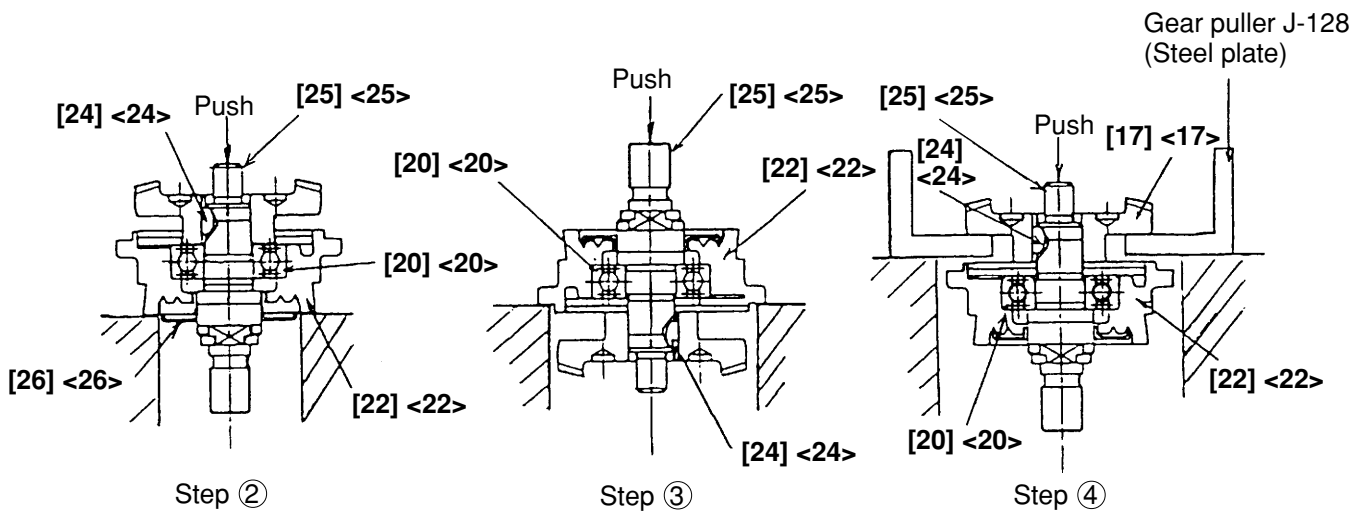

Fig. 5
(5) Disassembly of the gear (Fig. 5)
- ① Loosen the four Seal Lock Screws M4 x 12 [23] <23> fixing the Packing Gland [22] <22>, and remove the Packing Gland [22] <22> from the Gear Cover Ass'y [4] <4>.
- ② Support the bottom of the Packing Gland [22] <22> with a jig, and push down on the upper portion of the Spindle [25] <25> with a hand press until the end surface of the Woodruff Key [24] <24> contacts the Ball Bearing [20] <20> and the Spindle [25] <25> cannot be pushed down any more. Be careful not to deform the Finger [26] <26>.
- ③ Turn the Packing Gland [22] <22> upside down and fix it, then push down the Spindle [25] <25>.
- ④ Insert the J-128 gear puller (use of a steel plate is permitted as a substitute) between the Gear [17] <17> and the Packing Gland [22] <22>, and push down the Spindle [25] <25> with a hand press to remove it.